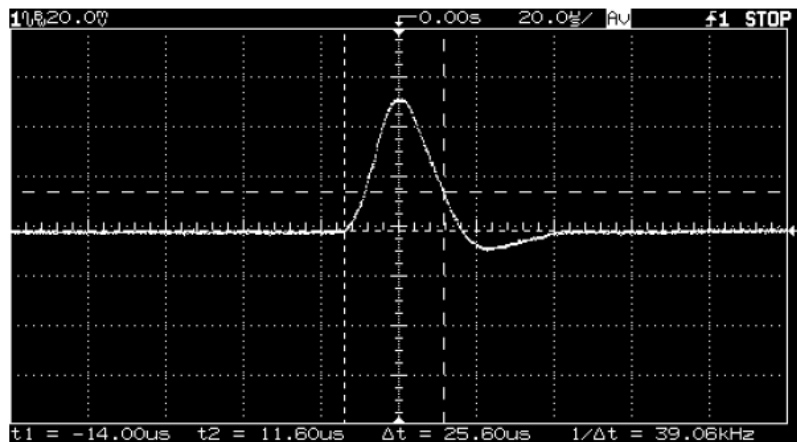

Figure 1-2 Transient response time
- 5 Adjust the the oscilloscope to display transients as shown in Figure 1-2. Note that the pulse width ($t_2 - t_1$) of the transients at 15 mV from the base line is no more than 50 msec for the output.